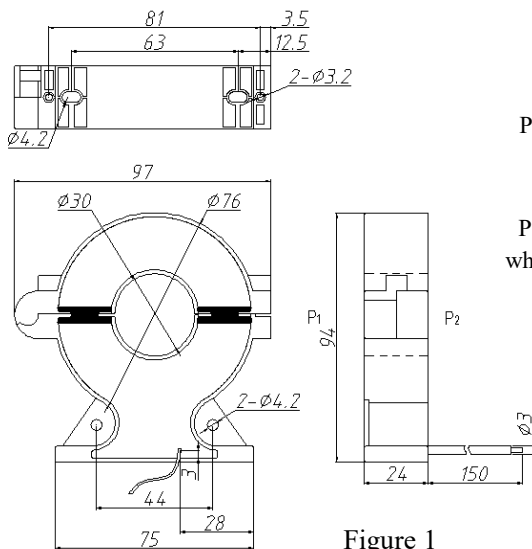

Figure 1
- ① Ambient temperature: $-55\text{ }^{\circ}\text{C} \sim +85\text{ }^{\circ}\text{C}$;
- ② Relative humidity: $\leq 90\%$ at $40\text{ }^{\circ}\text{C}$;
- ③ Atmospheric pressure: 860~1060mbar(about 650~800mmHg).
- ① Insulation resistance: $>1000\text{M}\Omega$ in normal condition ;
- ② Insulation withstand voltages: 6kV 50Hz / 1 min ;
- ③ Fire Retardant: In conformity with UL94-V0.
- ① The outline drawing and installation dimensions are shown in Figure 1: